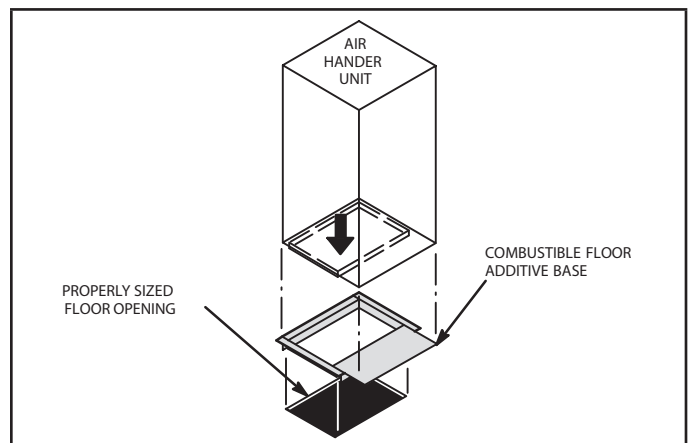

FIGURE 18. Downflow Combustible Flooring Base
- 1 - For downflow installation on combustible flooring, an additive base must be used as illustrated in figure 18. See CBA25UHV Engineering Handbook for downflow combustible flooring base kits available for this air handler.